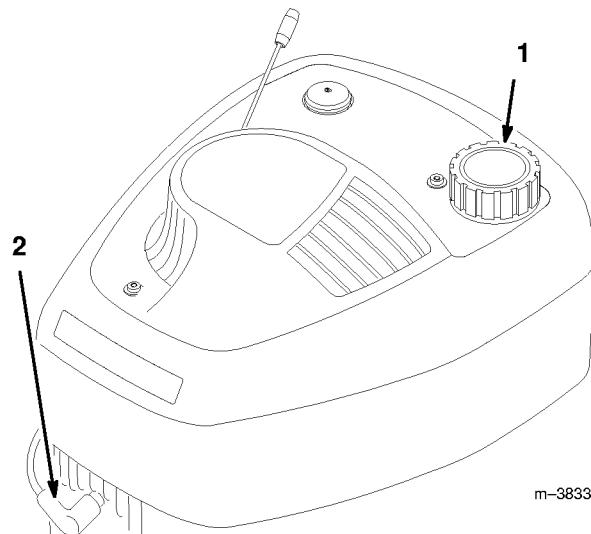

**Figure 55**
2. Rotate handle toward front of mower (Fig. 55).